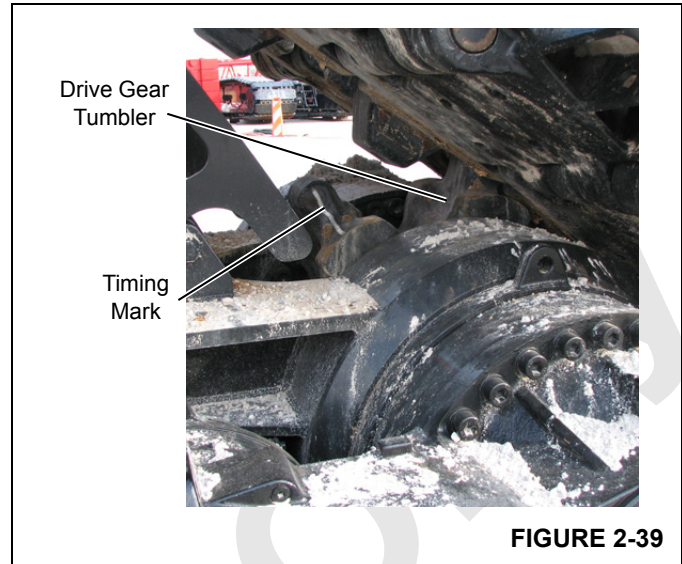

FIGURE 2-39
1. Put a timing mark on drive gear tumbler at front of one crawler and at rear of other crawler (Figure 2-39).